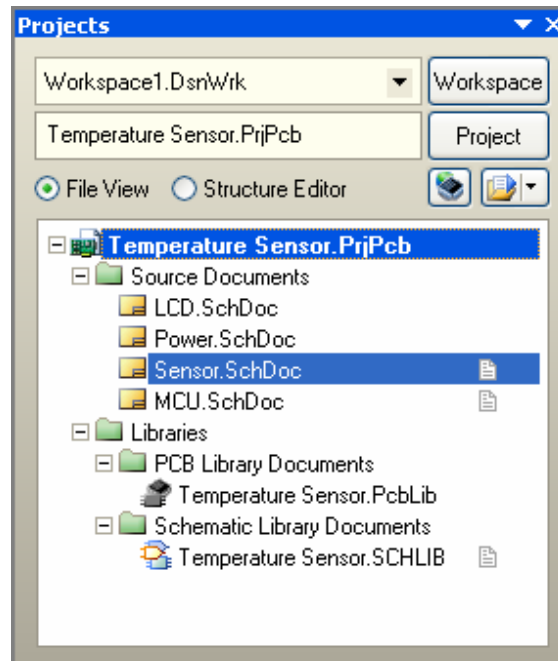

Figure 21. Project structure after completing the MCU schematic.
At this stage in the training, your Temperature Sensor project should look like Figure 21. However, the *Sensor.SchDoc* and the project libraries are not there as yet. To complete it:
3. Also you'll need to add the library files as shown in Figure 21 to the project and save the project PCB.